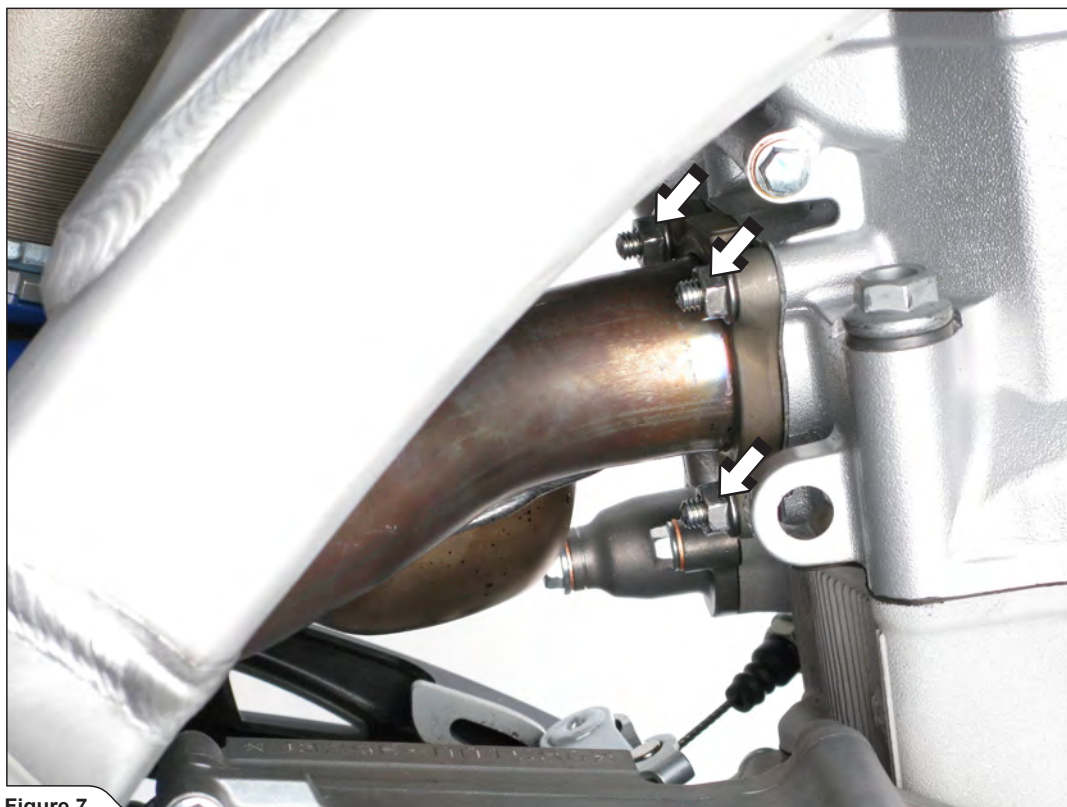

Figure 7
8. Unscrew the marked nuts and carefully remove the stock header pipe off the motorcycle (Figure 7).